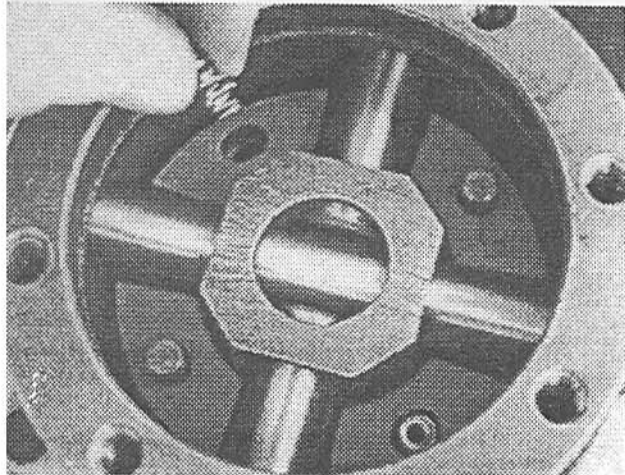

Figure 10
shafts (see **Figure 10**). Note that the pinion shaft block is not a precision part and that the holes may be drilled off-center such that the block is thicker on one side than on the other. The spacer may tend to bind between that side of the block and its corresponding side gear.
4. Insert a small spring into a large spring and place the assembly into one of the large holes in the bottom driver (**Figure 10**). Repeat for the other hole. The grease placed in the holes earlier will help hold things in place.